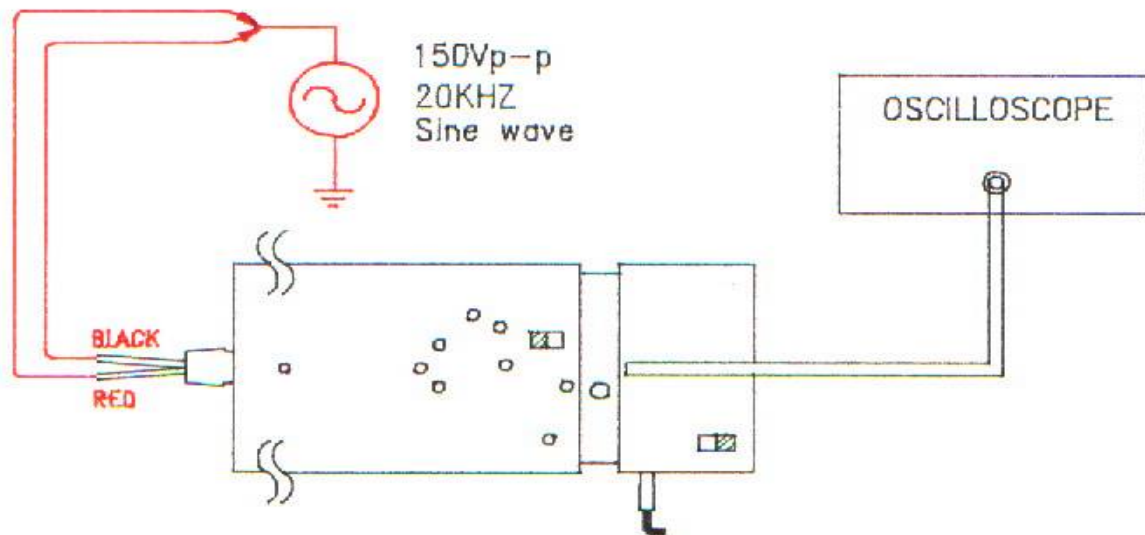

Fig. 11
- Referring to Fig. 11, connect output BNC to the oscilloscope has good grounding.